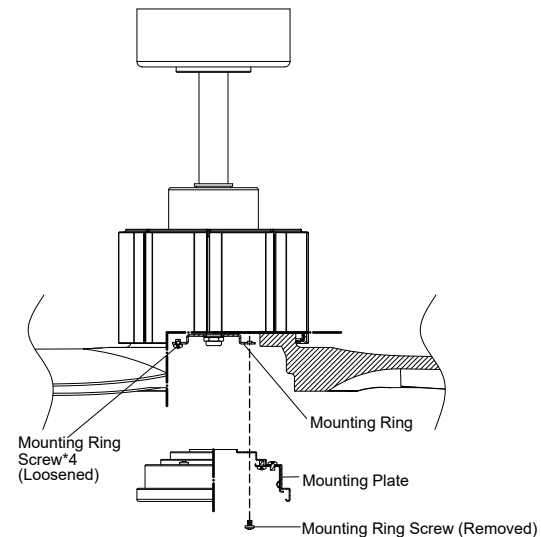

Fig. 14
**Step 1.** Loosen 3 of the mounting ring screws on the mounting ring attached to the motor shaft, and remove and save the fourth mounting ring screw. (Fig. 14)
**Step 2.** Place the key holes in the mounting plate over the 3 mounting ring screws that were loosened on the mounting ring, and turn mounting plate (clockwise) until it locks in place against the mounting ring screws at the narrow sections of the key holes. (Fig. 14)
Reinstall the fourth mounting ring screw that was previously removed, and tighten all 4 mounting ring screws to secure. (Fig. 14)